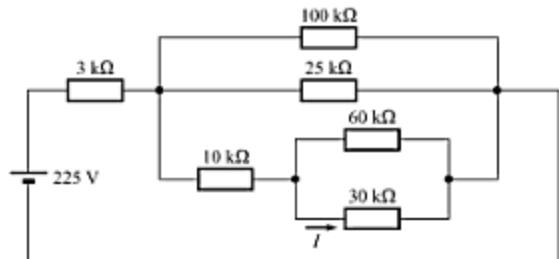

Fig. A-111
- A-78. Use repeated current division to find  $I$  in the circuit of Fig. A-111.